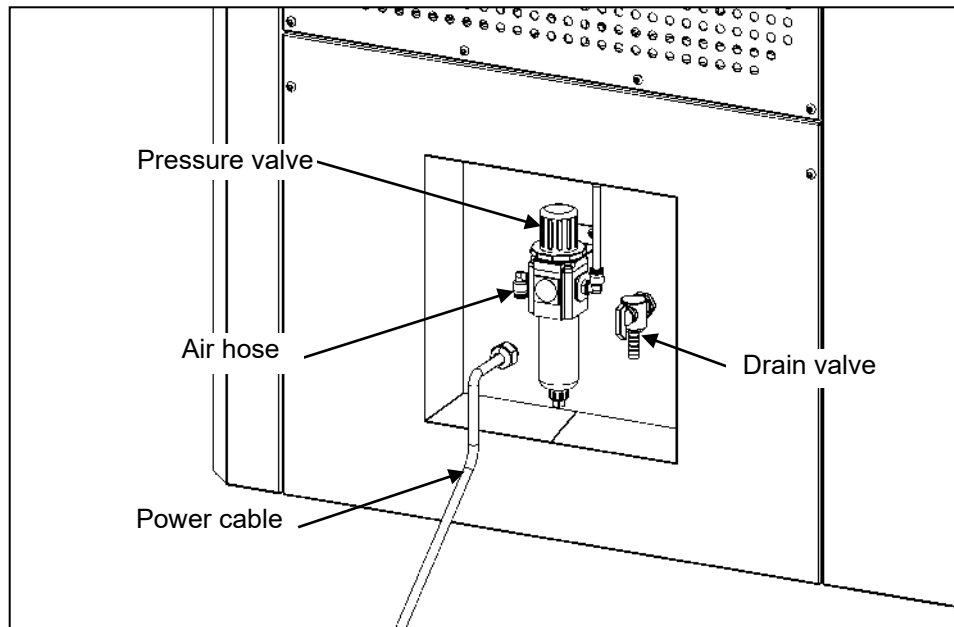

Fig. 11
- Connect an **8mm air hose** to the designated position on the machine as shown in **Fig. 11**.
- Refer to **Fig. 11** for visual guidance during the connection process.